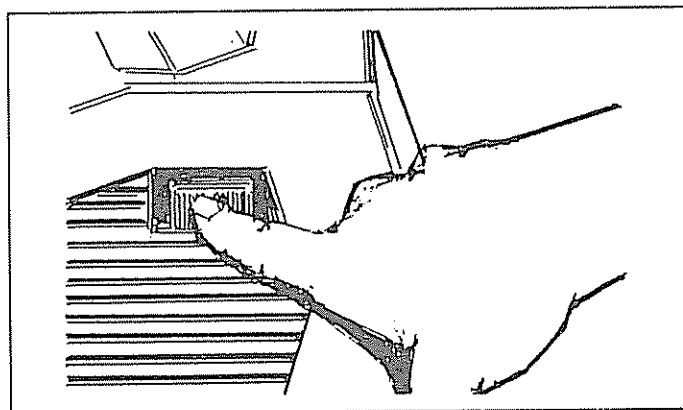

FIG. 6
- If the pressure washer is running, press the ON/OFF switch (Fig. 6).